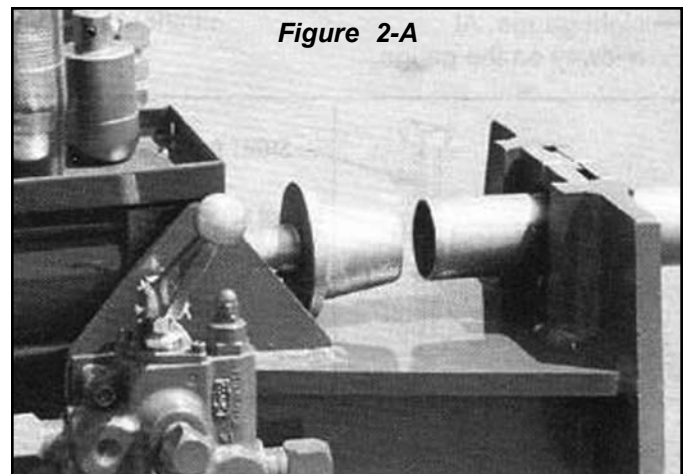

Figure 2-A
- Leave at least 4" of tubing extended beyond the inside edge of the adapter collar. (See figure 2-A)